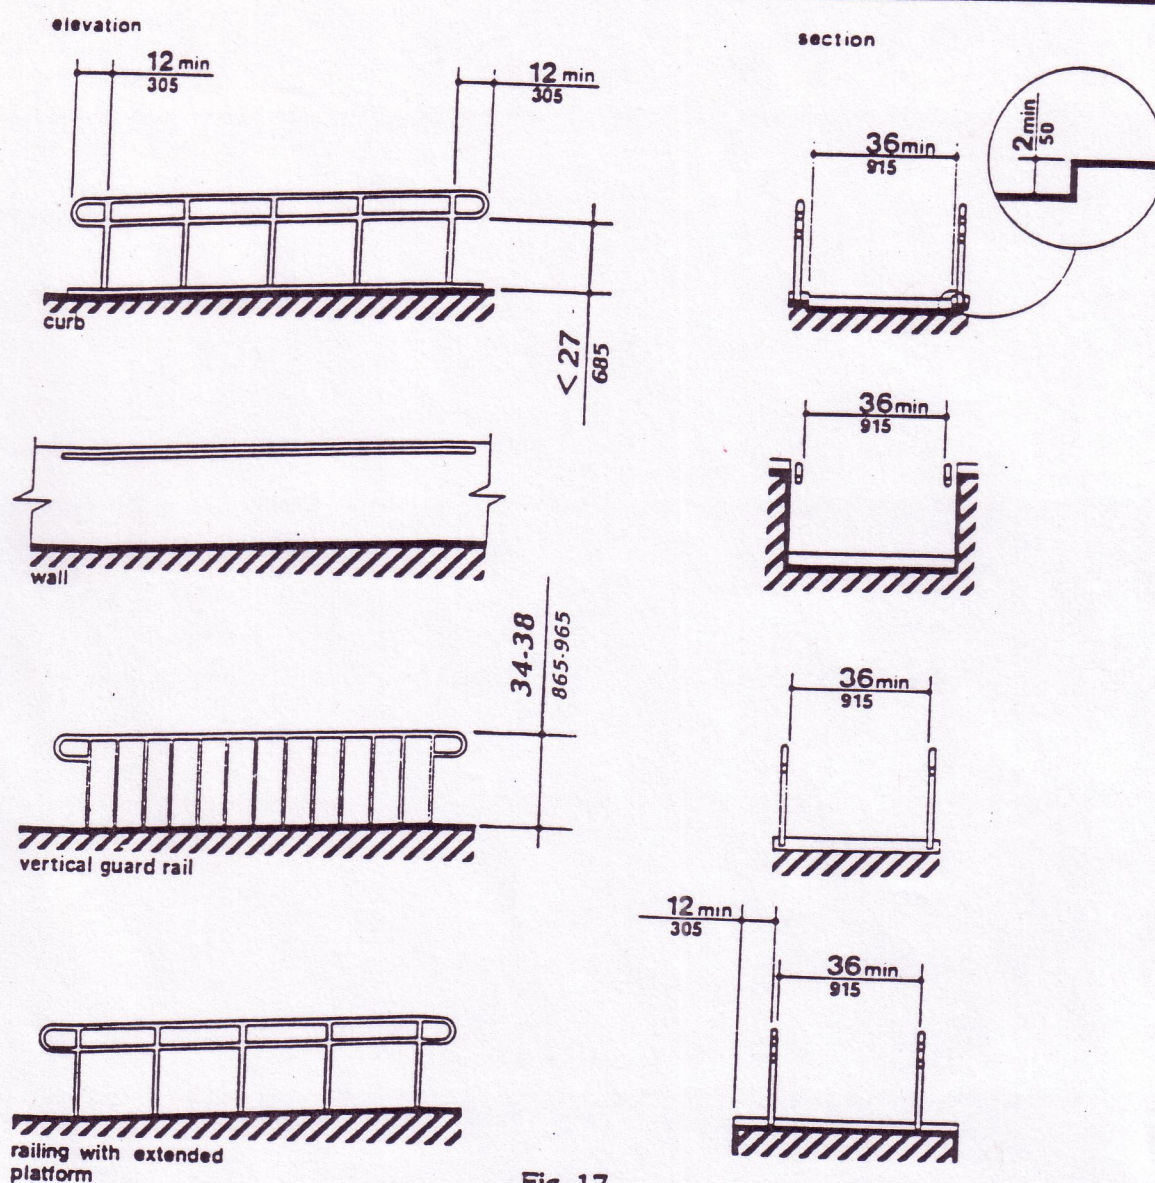

Fig. 17
- (1) Handrails shall be provided along both sides of ramp segments. The inside handrail on switchback or dogleg ramps shall always be continuous.
- (2) If handrails are not continuous, they shall extend at least 12 in (305 mm) beyond the top and bottom of the ramp segment and shall be parallel with the floor or ground surface (see Fig. 17).
- (3) The clear space between the handrail and the wall shall be 1 - 1/2 in (38 mm).
- (4) Gripping surfaces shall be continuous.
- (5) Top of handrail gripping surfaces shall be mounted between 34 in and 38 in (865 mm and 965 mm) above ramp surfaces.
- (6) Ends of handrails shall be either rounded or returned smoothly to floor, wall, or post.
- (7) Handrails shall not rotate within their fittings.